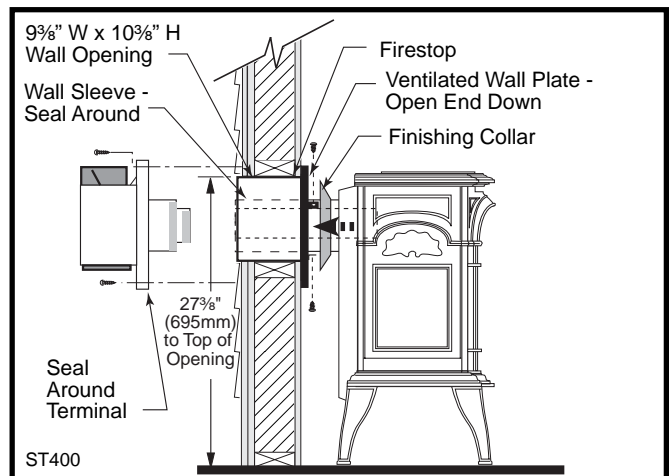

Fig. 18 SDVR with Rear Vent Kit 7TFERSK installation.
4. Install the Wall Firestop/Sleeve assembly into the wall cutout and fasten the firestop to the wall cutout framing members. (Figs. 18, 19)
7. Connect the pipe to the inner collar. Fasten the wall plate to the pipe with three sheet metal screws. Slide the trim collar up against the wall plate to cover the screws. (Figs. 18, 19)
8. Install the vent terminal. (Figs. 18, 19) Guide the inner and outer vent termination collars into the adjacent pipes. Double check that the vent pipes overlap the collars by 2". Fasten the termination to the wall with the screws provided, and caulk the joint with weatherproof sealant.